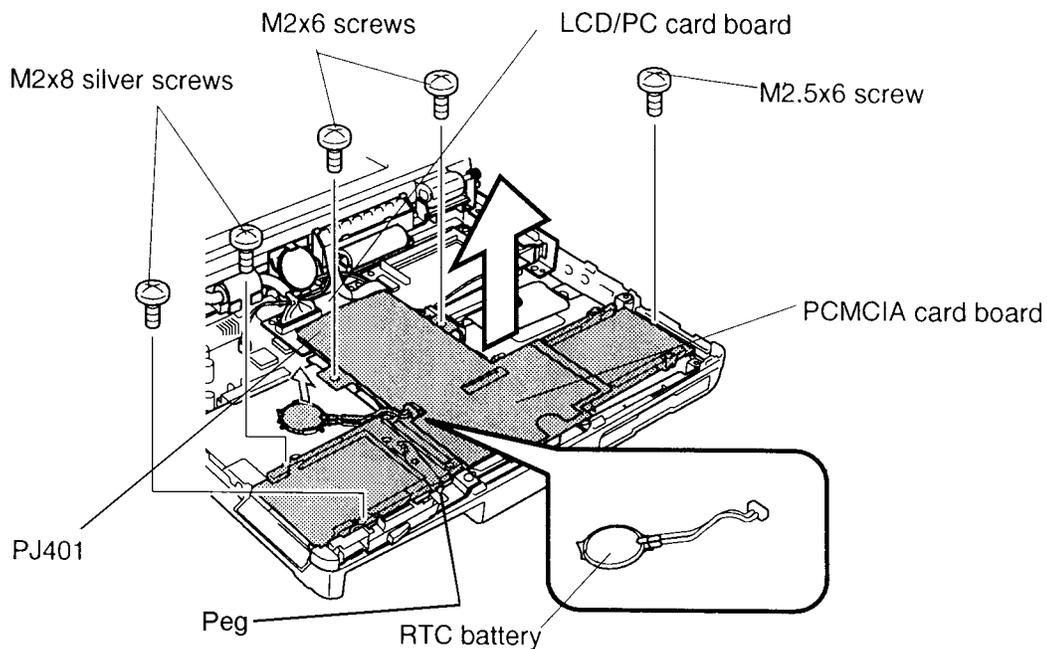

Figure 4-13 Removing the RTC battery and upper system board
4. Remove the two M2x6 screws, two M2x4 screws and one M2.5x6 screw securing the upper system board (figure 4-13).
5. Disconnect PJ401 on the upper system board from the connector on the LCD/PC card board and lift out the upper system board (figure 4-13). Note the metal loop on the left release device which fits over the peg on the left PCMCIA card ejector.
1. Set the RTC battery in place, but do not connect the RTC battery cable to PJ403 on the upper system board at this time (figure 4-13).
2. Connect PJ401 on the PCMCIA card board to the connector on the LCD/PC card board (figure 4-13). Be sure to fit the metal loop on the left release device over the peg on the upper part of the PCMCIA card ejector.
3. Secure the upper system board with the two M2x6 screws, two M2x4 screws and one M2.5x6 screw (figure 4-13). Be sure to fit the peg on the underneath part of the PCMCIA card ejector into the metal loop on the release device.